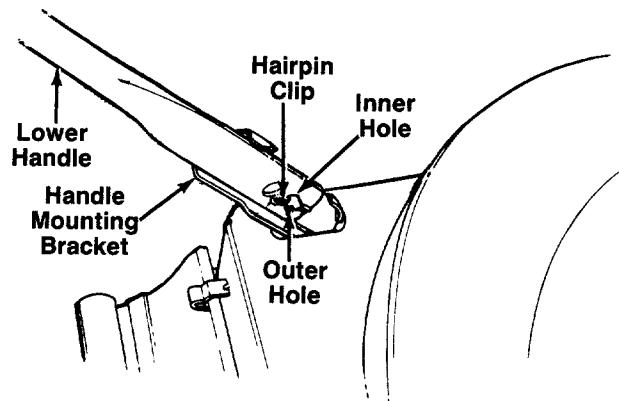

FIGURE 1.
1. Remove the hairpin clips from the holes in the handle brackets, which extend through the rear of the deck. See figure 1.
3. Using a pair of pliers, squeeze one leg of the lower handle against the handle mounting bracket. Insert the hairpin clip into the **inner hole** on the weld pin. See figure 1. Repeat on other side.